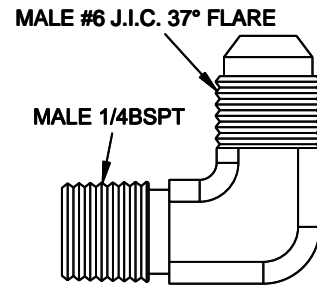

Fig. 6 – Cylinder Adapter Elbow
- 7) Install a 90 degree cylinder adapter elbow, **Fig 6**, (male 1/4BSPT x male #6 J.I.C. 37° flare) to the upper and lower ports (1/4BSPT) of both the master and slave cylinders.